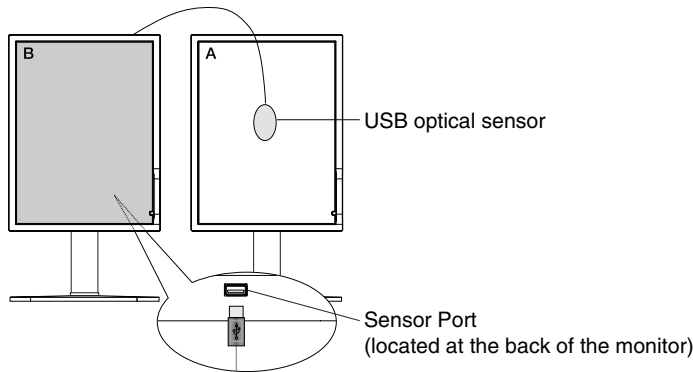

Figure C.1
1. To show the CALIBRATION menu, plug-in the USB optical sensor to the sensor port (Figure C.1) or select the STAND ALONE CALIBRATION in the advanced menu (page 20).
5. The procedure will ask for the USB optical sensor to be placed on the center of the display panel (Figure C.4). Tilt the display panel approximately 5° backward and place the USB optical sensor in the center of the display panel (Figure C.1).